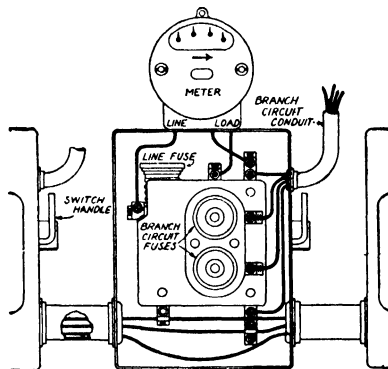
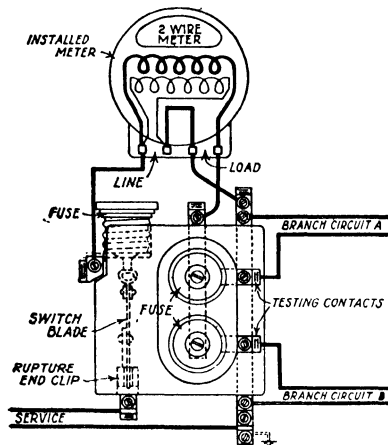

Fig. 21. Meter Service Switch Boxes and Wiring
Fig. 29. Wiring Diagram of Meter and Service Switch
service switch is connected to the next one by a short piece of conduit, Fig. 21, so that all the wiring will be in conduit. A special opening or hinged cover opposite the branch circuit fuses in the service switch provides access for the placing of fuses on the branch circuit without opening the door of the switch. Fig. 21 gives a view of the universal service switch with the cover open, showing the branch circuit wiring, fuse block, and meter wiring as it will look when completed. Only the conduit and the service switch box is installed at this time, the wires being installed later.
place. There are many types of branch circuit fuse blocks used with meter service switches and boxes. One of the types used with polarity wiring is shown installed in a cabinet, Fig. 21. In this particular fuse block there are two sets of fuses. The fuse at the top is in the live or "hot" side of the circuit coming from the main service switch to the meter and protects the meter. The two threaded sockets in the front part of the block are for the branch circuit fuses. Only one fuse is required for each branch circuit with polarity wiring, but this fuse must be placed in the "live" or "hot" wire. A wiring diagram of the meter service switch is shown in Fig. 29. A 10- or a 15-ampere fuse is used in the branch circuits
and a 25-ampere fuse should be screwed in the top of the fuse block. The power company installs the meter directly above the meter service box. This enables them to seal the meter terminals and the cover of the meter switch box so there will be no opportunity for the wires to be tampered with. There is an opening in the front cover of the meter service switch box, Fig. 21, which enables the customer to replace the fuses on the branch circuit without breaking the seal on the meter service switch.
**Testing for Grounds.** The wiring can be tested by connecting a dry cell or battery to the two upper right-hand terminals, Fig. 29, to which the branch circuits are connected. Touch the terminals of a door bell to the center and shell of each fuse socket, Fig. 29. If the bell rings, there is a short or ground on that branch circuit.
To test for short circuit, disconnect the white service wire, Fig. 29, from the fuse block and test as before. If the bell rings, there is a short circuit between the two wires of that branch circuit, which must be located and cleared.
After all grounds and short circuits have been cleared, each socket and receptacle should be tested to see that it is connected. This is done by connecting a dry cell or battery to the two upper right-hand terminals, to which "Load" wires are fastened, Fig. 29, and touching the terminals of the door bell to the center and shell of each and every socket and receptacle. If the wiring is correct, the bell should ring when the switch on the wall and the socket is turned on, also when touched to the terminals of a receptacle.